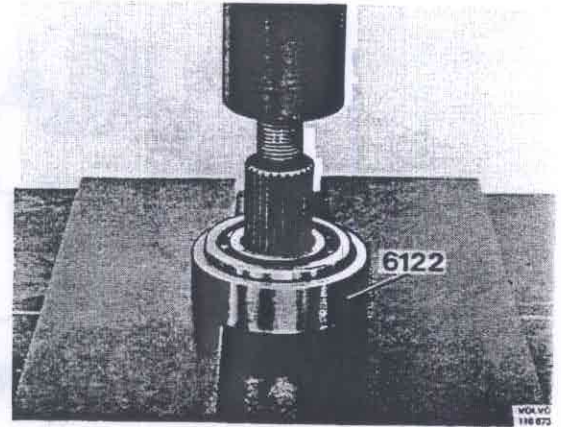

Fig 46-139 Removing the bearing
7. Place the drive shaft in 6122, Fig. 46-139, and press off the bearing.